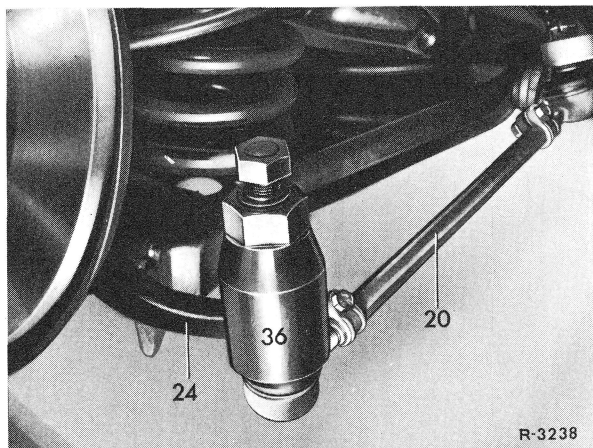

Fig. 1
**1** Unscrew castle nut from ball joint of track rod. Then remove track rod by means of puller (36) from steering knuckle arm (24) (Fig. 1).
**8** Attach track rod (20) to steering knuckle arm (24) with castle nut and insert cotter pins. Tightening torque 35 Nm (3.5 kpm) — reference value (Fig. 1).